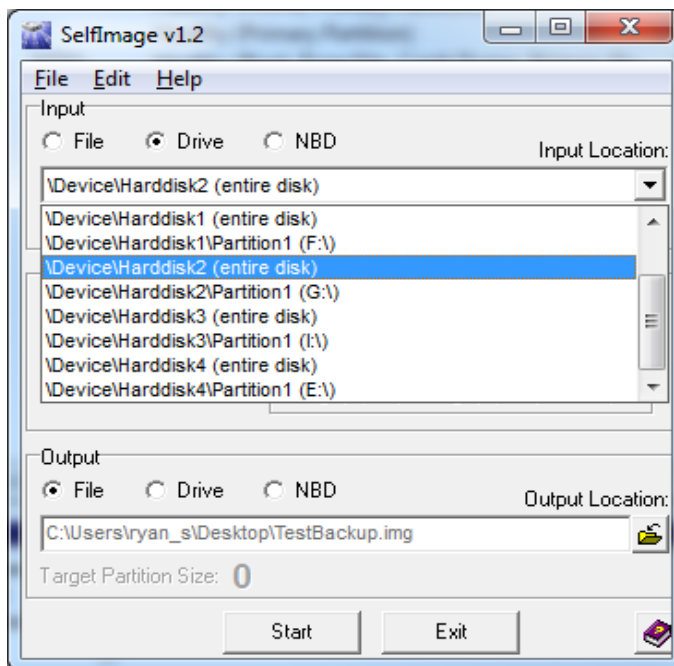
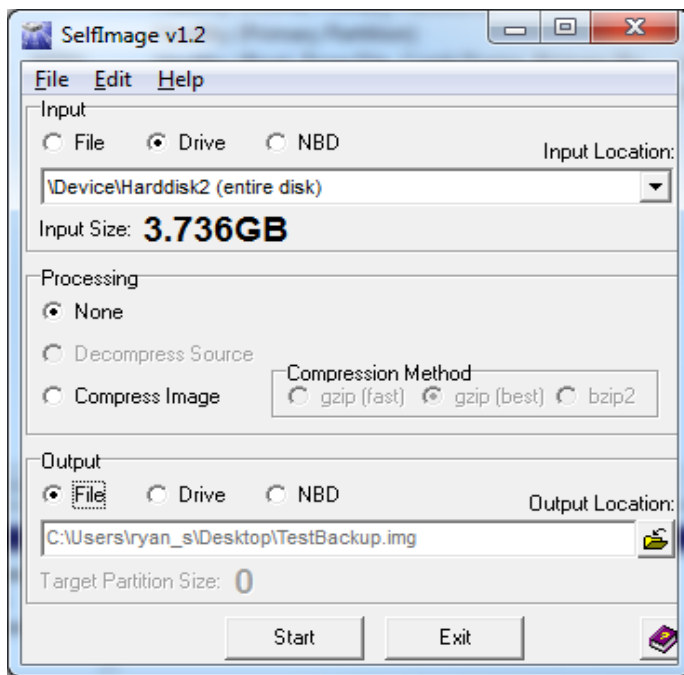

Figure 7 – SelfImage – Making an Image
Figure 8: SelfImage
- (b) In SelfImage select the “Input” as “Drive” and then use the drop down to select the drive (see Figure 7) noted in step 4 (d). It is important that you select “Entire Disk” version of the “Disk” number to ensure the proper imaging.
- (c) Under “Processing”, select “None” (see Figure 8).
- (d) Under “Output”, select “File” and then choose a file location and assign a file name (see Figure 7). This file will be saved in the IMG format and will be approx 4 GB in size. The actual file size is shown as “Input Size” (see Figure 8).